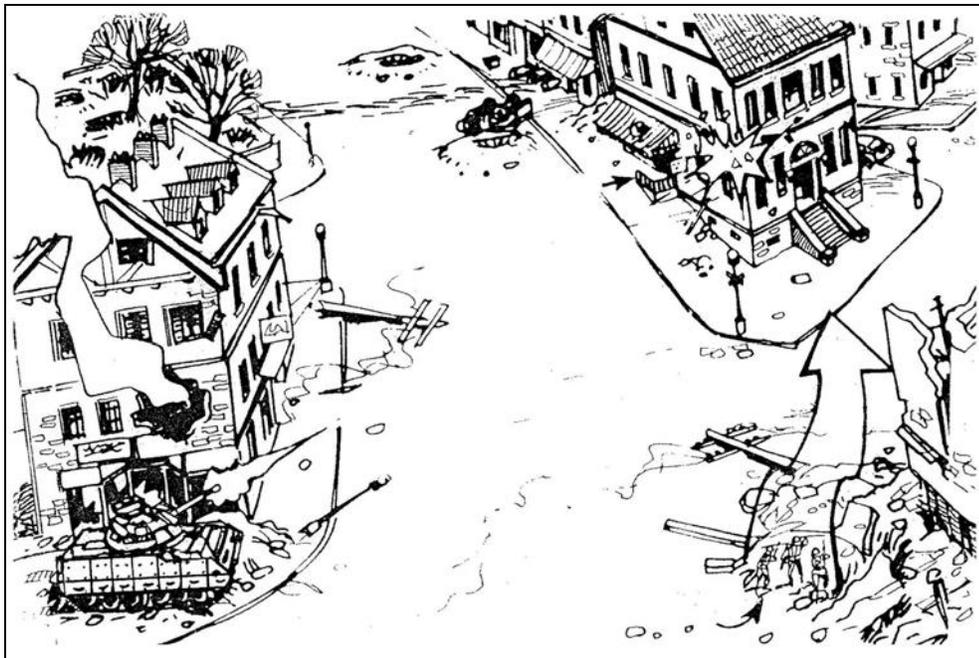

Figure E-5. Support by the 25-mm gun for the dismounted element.
(1) *Weapons.* The BFV's mounted element provides fire (with its 25-mm gun and 7.62-mm coax machine gun) for the dismounted element on the opposite side of the street. The 25-mm gun is the most effective weapon on the BFV for UO (Figure E-5).